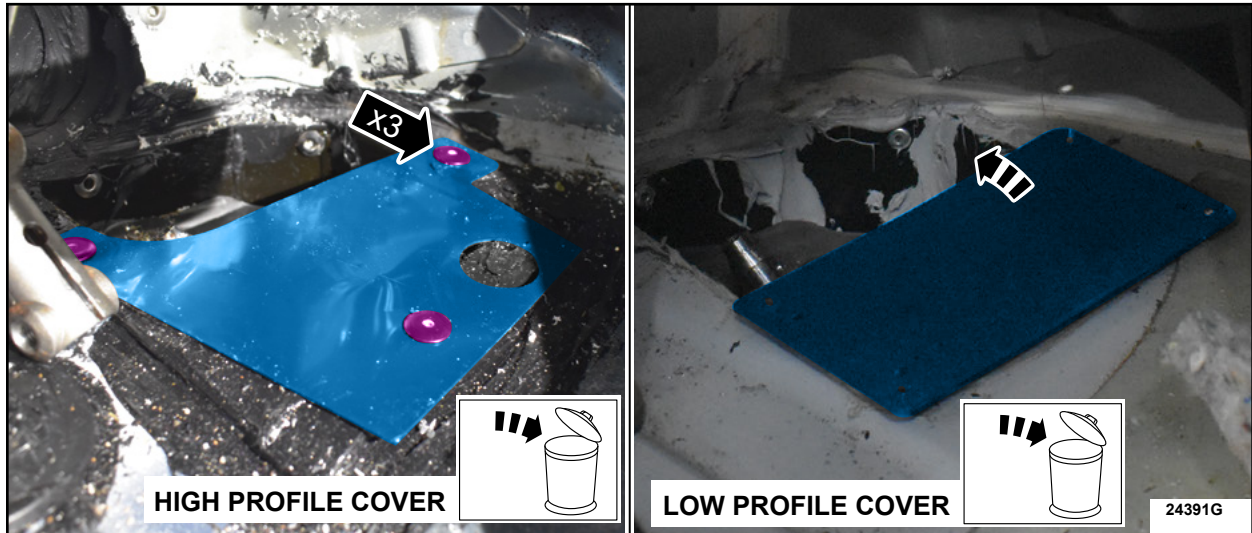

FIGURE 7
9. **For Low Profile Covers Only**, the steering column shaft plastic plate will either be attached to the back of the rubber flooring or laying loose on the floor. Discard the plastic plate. See Figure 7.
10. Using a 3/16 in. drill bit, remove the rivets holding down the steering column shaft plastic plate as shown in Figure 7. Discard the plastic plate and the rivets.